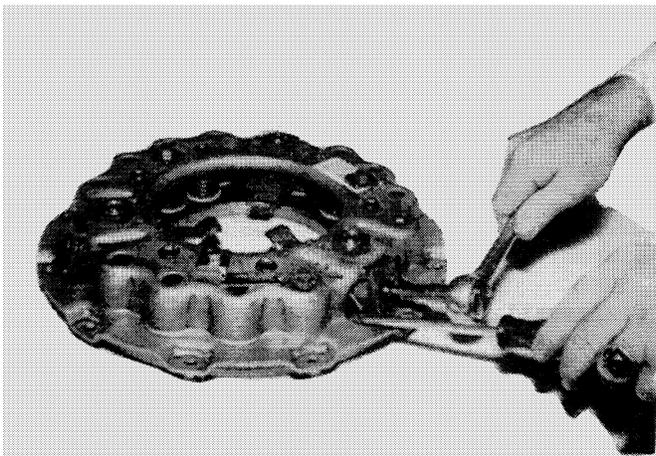

Fig. 3
7. In placing driving lugs in the covers extreme care must be taken to ensure accurate alignment. Before tightening the nuts on the drive lugs place the cover over a new pressure plate with each lug engaging a mating slot in the pressure plate. With a screw driver or pinch bar force the pressure plate against the driving lug as the nut is tightened. Nuts should be torqued to 50 ft.-lb. and be sure that the pressure plate has drive lug clearance as indicated above. Figure 3.